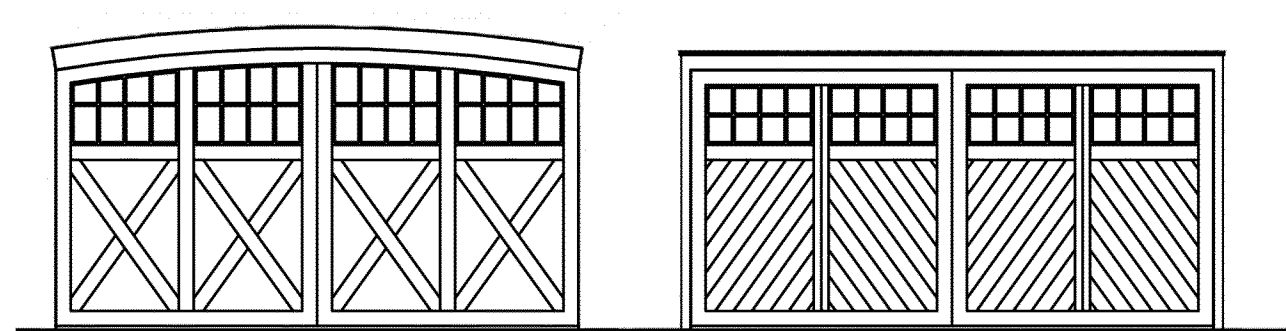

Figure 28
- » Garage doors shall be built of embossed steel or fiberglass. Glass transoms appropriate to the garage door style may be included (i.e., square-top transoms with square-top doors; arch-top transoms with arch-top doors). Garage doors on frontage elevations (fronting a street) shall be architectural grade, carriage style doors with transom windows. See Figure 28.